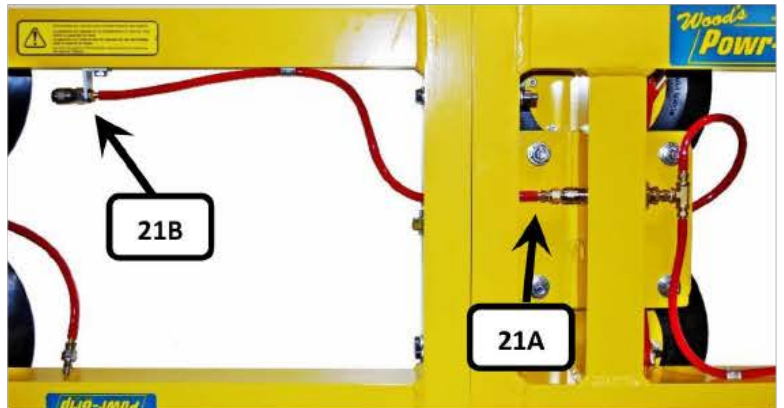

FIGURE 21
57) Remove the ball valve and additional hose from the assembly. Leave the vacuum pads capped off. Reattach all original hoses and quick connects of the first pad arm assembly. Reattach the vacuum hose to the male quick connect (**21A** of **FIGURE 21**) that was capped off in step 29.
58) Run vacuum test to verify the outer quick connect, **21B**. See **FIGURE 21**.